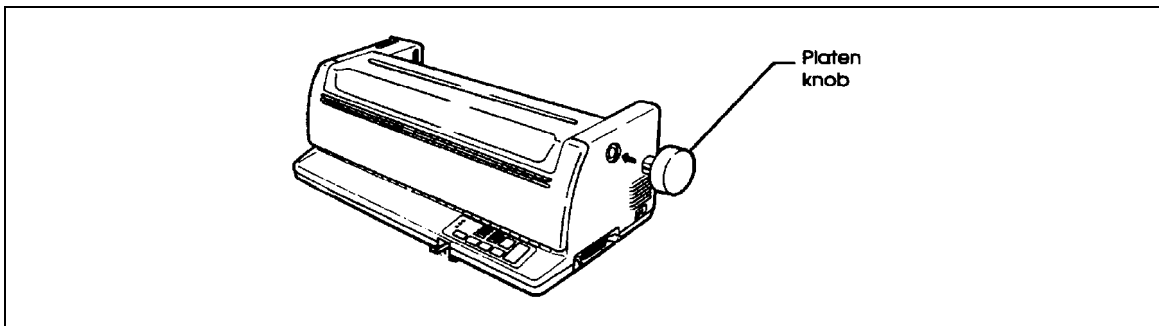

Figure 3-16. Installing the Platen Knob.
- (2) Install the Platen Knob on the right side of the printer as depicted in figure 3-16.